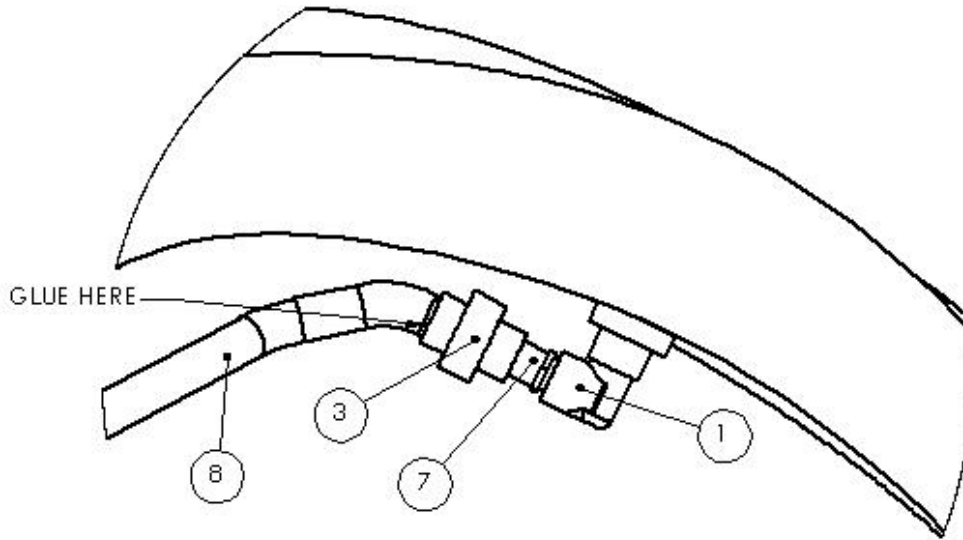

Figure 12
- 15) Apply PVC glue to the inside of the slip end of the PVC Union. Insert the (#8) PVC Spa Hose into the union as shown below in Figure 12.